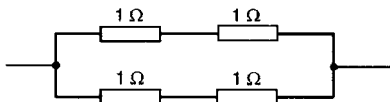

Figure 5.17
- (b) **Two in series, in parallel with another two in series** (see Fig. 5.17), since 1 Ω and 1 Ω in series gives 2 Ω , and 2 Ω in parallel with 2 Ω gives